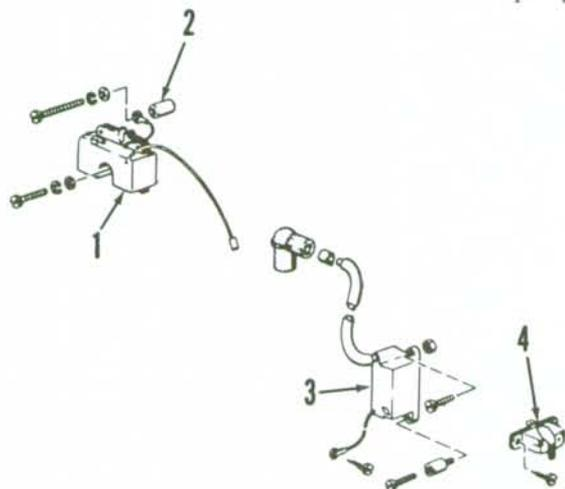

Fig. HL375—View of ignition components.
MAGNETO AND TIMING. A solid-state ignition system is used. Timing is fixed and set at 29 degrees BTDC. The solid-state ignition system is serviced by renewing the spark plug, ignition module (1—Fig. HL375) or coil (3).